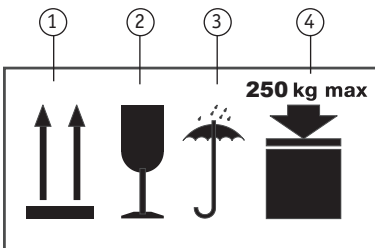

Figure 12
- Handling symbols for transport and storage of the delivery unit (Figure 12)